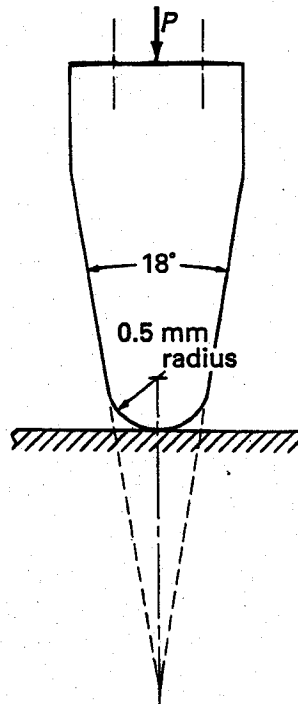

Figure 6
- 5(a) Determine an expression for the displacement of a gap in a split ring when the ring is subjected to uniformly distributed pressure p . (16)
- (b) Assuming that the density of the ring is ρ write down an expression for the displacement of the gap when the ring is rotated at an angular speed ω . (4)
- 6(a) The pivot shown in Figure 6 has a rounded point with a radius of 0.5 mm. It rests on a flat surface and supports a force P . Both surfaces are of hardened steel and the allowable compressive stress at the point of contact is 2000 MPa. What is the force P if it is due to a mass of 204 kg? What length is required for the pivot so that the allowable compressive stress is not exceeded? Assume that the acceleration due to gravity is 9.81 m/sec^2 . (10)
- (b) Determine the maximum compressive stress at a location 2 mm above the contact point in Figure 6 and comment on its value. (Hint: use Table 11.1). (10)